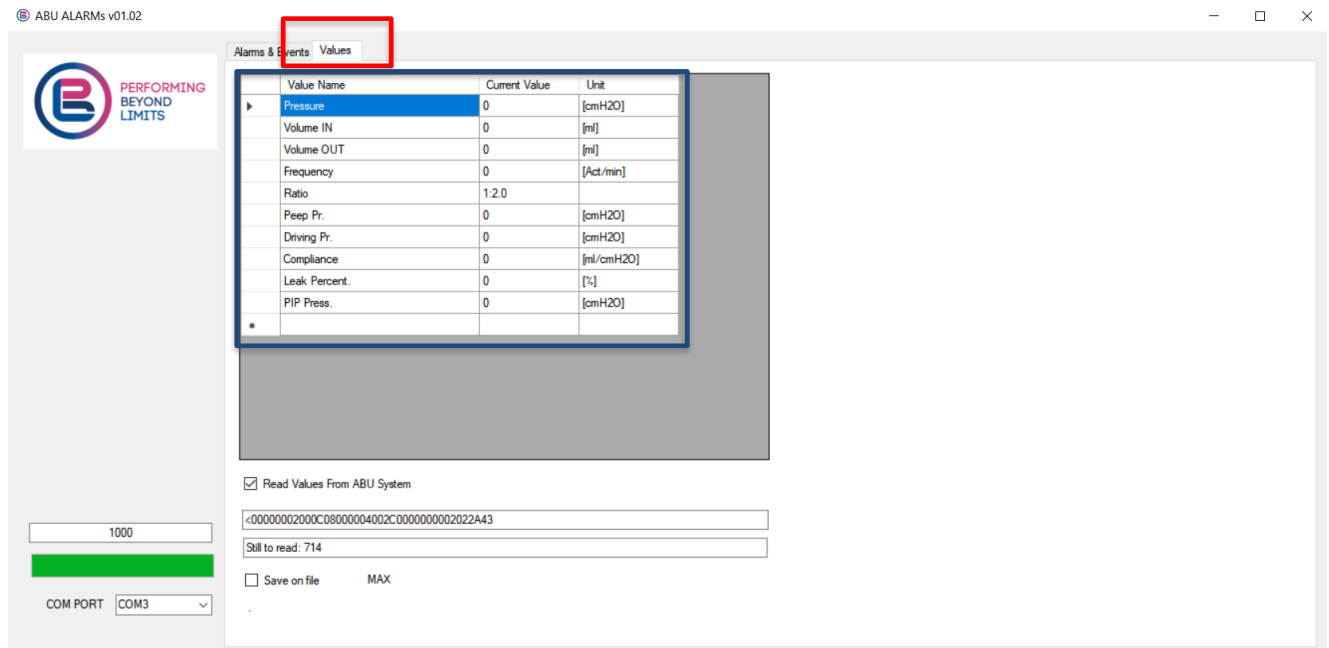

Figure 6.41. Tab for real-time values reading.
- On the main window of the software 'SerialArduino.exe', press the 'Value' tab as shown in Figure 6.41.
- In this tab, by checking the 'Read values From ABU System' option, the window will start showing the real time values of the ventilation parameters in the blue square of Figure 6.41. The real-time parameters shown are: